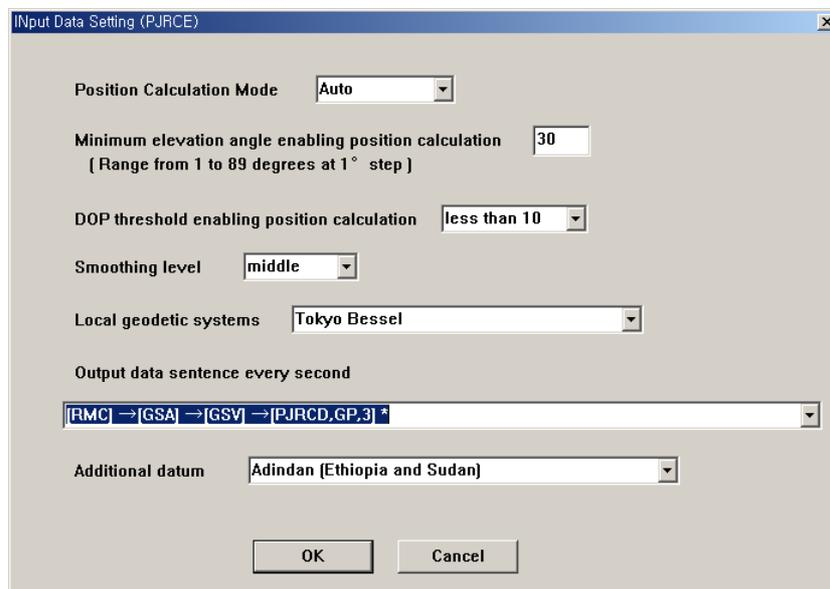

Figure 5.5. Inputted detail parameters for PJRCE instruction
10. Input each parameter referring to Fig 5.5. and Appendix B., and then click “OK” button. The pop-up window will disappear and full instruction for PJRCE will be displayed on input group box. Especially, you should select “[RMC]+ [GSA] + [GSV]+ [PJRCD,GP,3]” as a parameter of “Output data sentence every second”.
Win_sats program can be used to check the output from a GPS receiver. It provides a map and reception information on the Satellites which can be viewed. Before use of this program, you should change output data of ACC-515 into “[RMC]+ [GSA]+ [GSV]+ [PJRCD,GP,3]” format (Refer to Fig 5.5).